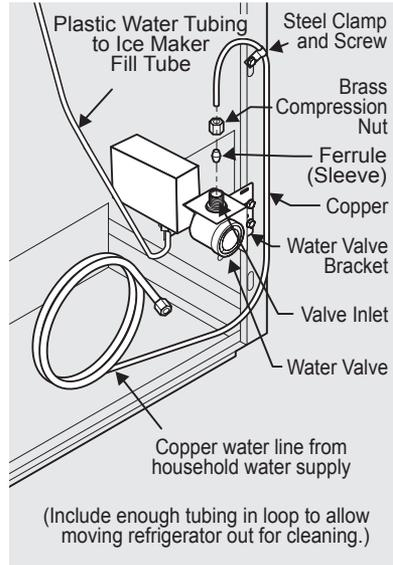

Figure 1
4. **If you use copper tubing** - Slide brass compression nut, then ferrule (sleeve) onto water supply line. Push water supply line into water valve inlet as far as it will go ($\frac{1}{4}$ inch / 6.4 mm). Slide ferrule (sleeve) into valve inlet and finger tighten compression nut onto valve. Tighten another half turn with a wrench; DO NOT over tighten. **See Figure 1.**